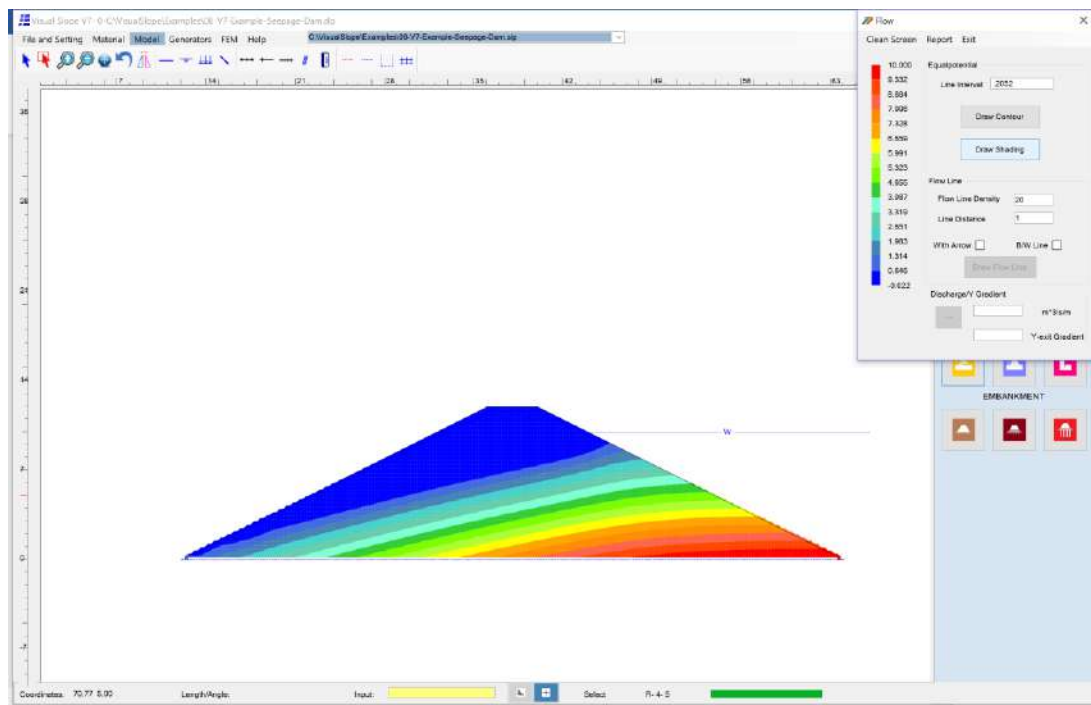

Figure 47: Phreatic Analysis
1. An unconfined seepage analysis must be conducted first to obtain the phreatic line (Figure 47), which is the water table under the ground surface.